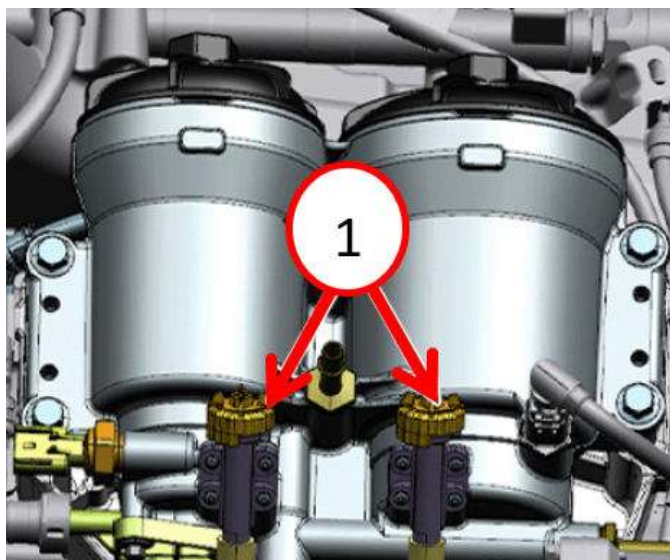

Fig. 1
3. **With engine not running**, Route the fuel drain hose to an appropriate container and rotate drain valves Fig 1 one quarter turn counterclockwise to open it.